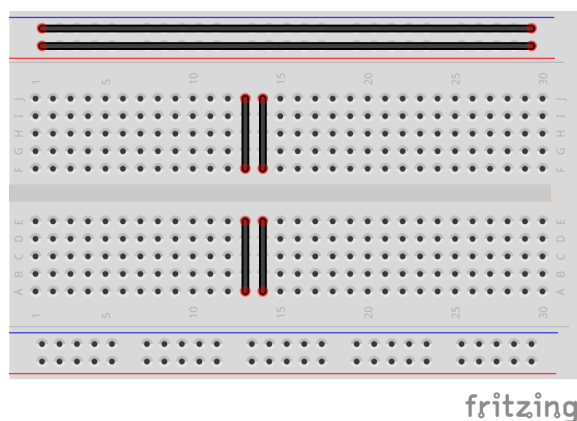

Figure 2.6: Connected holes are marked with black lines on the breadboard.
- **Breadboard** - is a type of board used to connect electronic components, i.e. to build electronic circuits. The board consists of many holes that are connected vertically as shown in Fig. 2.6 (black line).